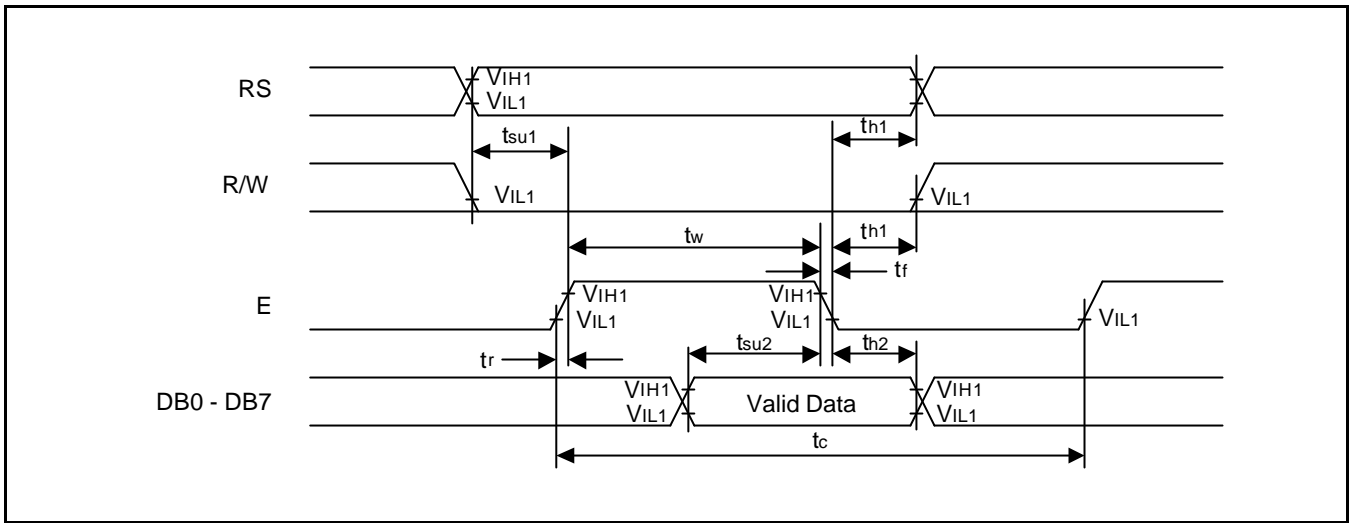

Figure 15. Write Mode
| (1) Write Mode(refer to Figure 15)               | E cycle time                   | tc              | 500 | –   | –   | ns   |
| (4) Write Mode(refer to Figure 15)               | E cycle time                   | $t_c$      | 1000 | –   | –   | ns            |